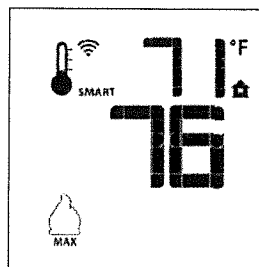

Figure 7.12 Smart Mode
- To activate this function, press the Thermostat Key until the word "SMART" appears to the right of the thermometer bulb icon. Fig. 7.12.